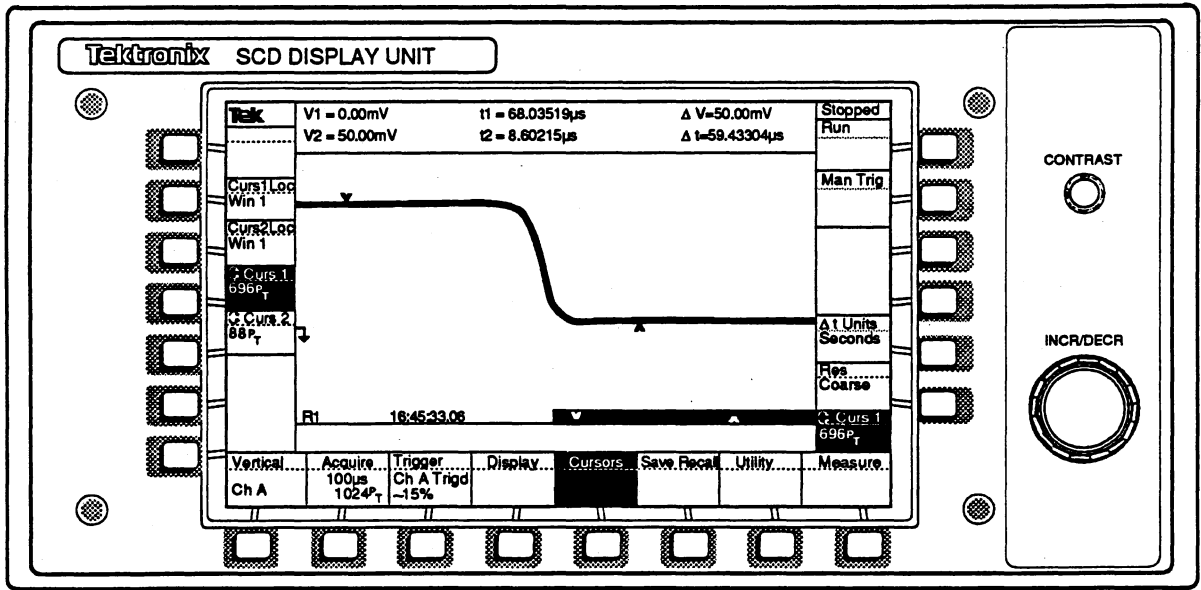

Figure 5-25: Vertical Size and Position Adjustment
2. Set the SCD to a 100  $\mu$ s acquisition window. Trigger on the rising edge of the signal, and adjust the SCD trigger delay to find the falling edge where both high and low levels for the signal are visible on the SCD display screen (approximately 450%) as shown in Figure 5-25.